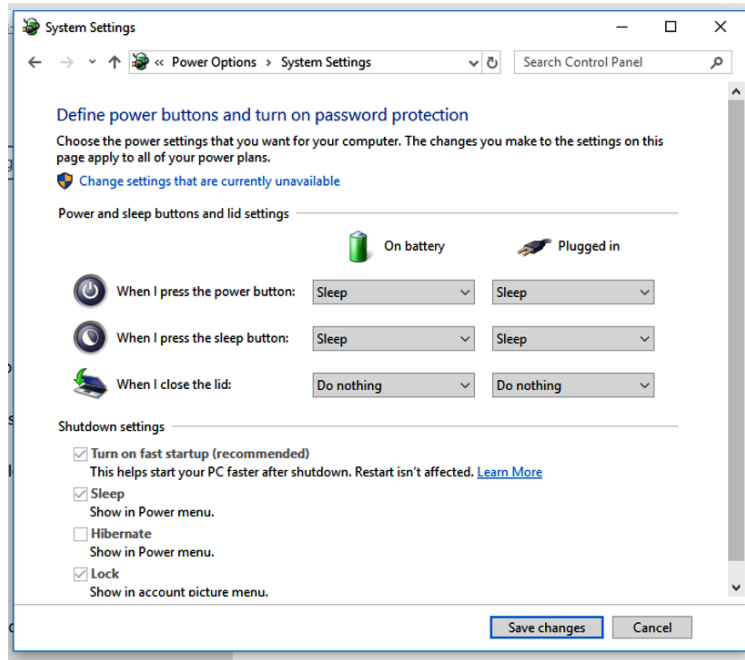

Figure 45: Power Settings For Range Extension
5. Open Control Panel. Select *Power Options* -> *Advanced Options*. In the section for "When I close the lid:" select "Do nothing." Save changes. (fig 45)